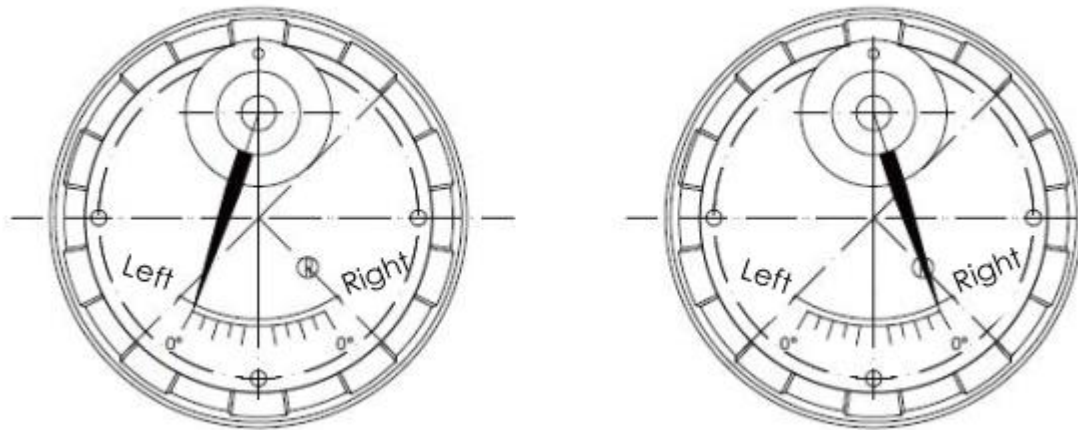

Figure 8 Transmitter Installation
6.3.3 The meter head of the transmitter is connected to the radiator through a connecting plate. When installing, insert the spindle head into the shaft connector hole of the transmitter gauge head, and should not make the shaft connector produce more obvious distortion phenomenon. The head of the transmitter can be installed on the left or right side, the installer is opposite the float ball installation interface, if the transmitter is on the left side of the installer, the pointer at the back of the head should be rotated to "left 0"; If the transmitter is on the right hand side of the installer, the pointer at the back end of the meter head will be rotated to "right 0", when the float ball moves to the lowest measurement position, tighten the coupling device and the spindle set screw, as shown in Figure 8.